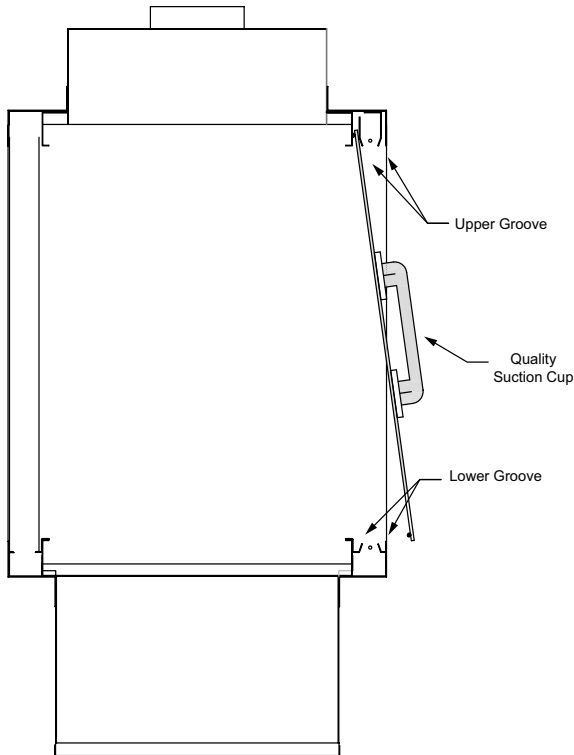

Figure 6A
Refer to Section 6 (Glass Frame Assembly Identification Figures 6A & 6B.1) when installing and removing the glass frame assembly.
3. Lift the glass into place. The top edge slips into the top groove; lift into the groove until the bottom is clear of the bottom trim. Slide the glass down into the inner bottom groove. See Figure 6A